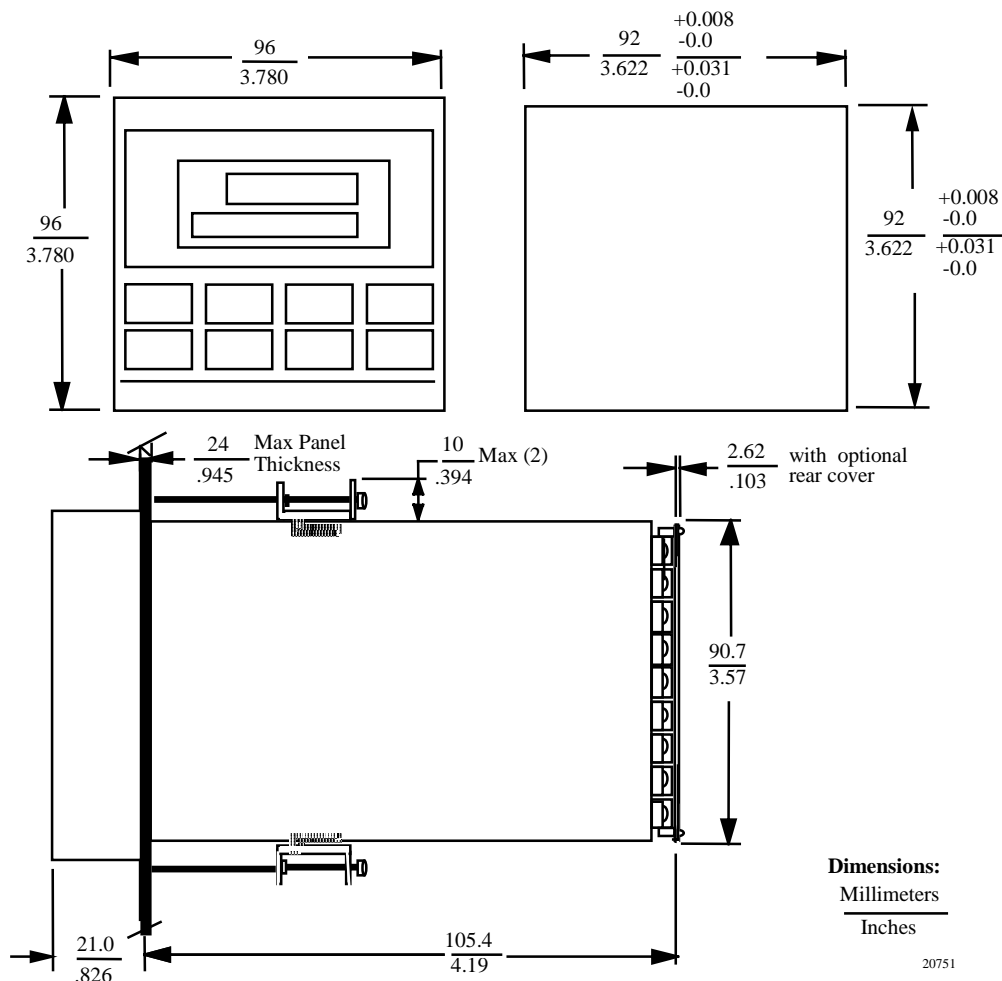

Figure 2-3 Mounting Dimensions (not to scale)
- Overall dimensions and panel cutout requirements for mounting the indicator are shown in Figure 2-3.
1	Mark and cut out the indicator hole in the panel according to the dimension information in Figure 2-3.